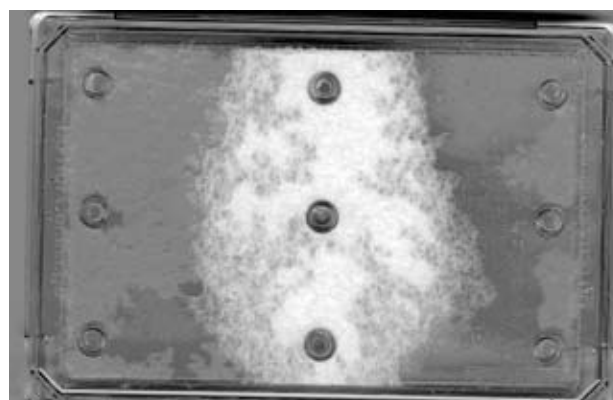

Figure 2a. Image of a lid filled from short sides
For aqueous solutions: 8 mL; for DMSO or other hygroscopic solutions: 7 mL (to allow for increase in volume as the solution absorbs water.) If the relative humidity of the lab allows hydration to lower than 70% DMSO, less fluid should be used in the lid to compensate for volume increase. When filled properly, there will be a gap in the middle of the felt where it has not been wetted, as shown in Figures 2a and 2b. The gap should be open on at least one edge of the lid to allow air to escape as the solution expands and/or hydrates. The vapor that protects the plate disperses evenly throughout the vapor barrier, so all edge wells are equally protected regardless of the gap.
3. Repeat Step 2 with the right-side trough. The filled lid should resemble the image in Figure 2a.
7. When the filling is completed properly, the filled lid should resemble the image in Figure 2a.